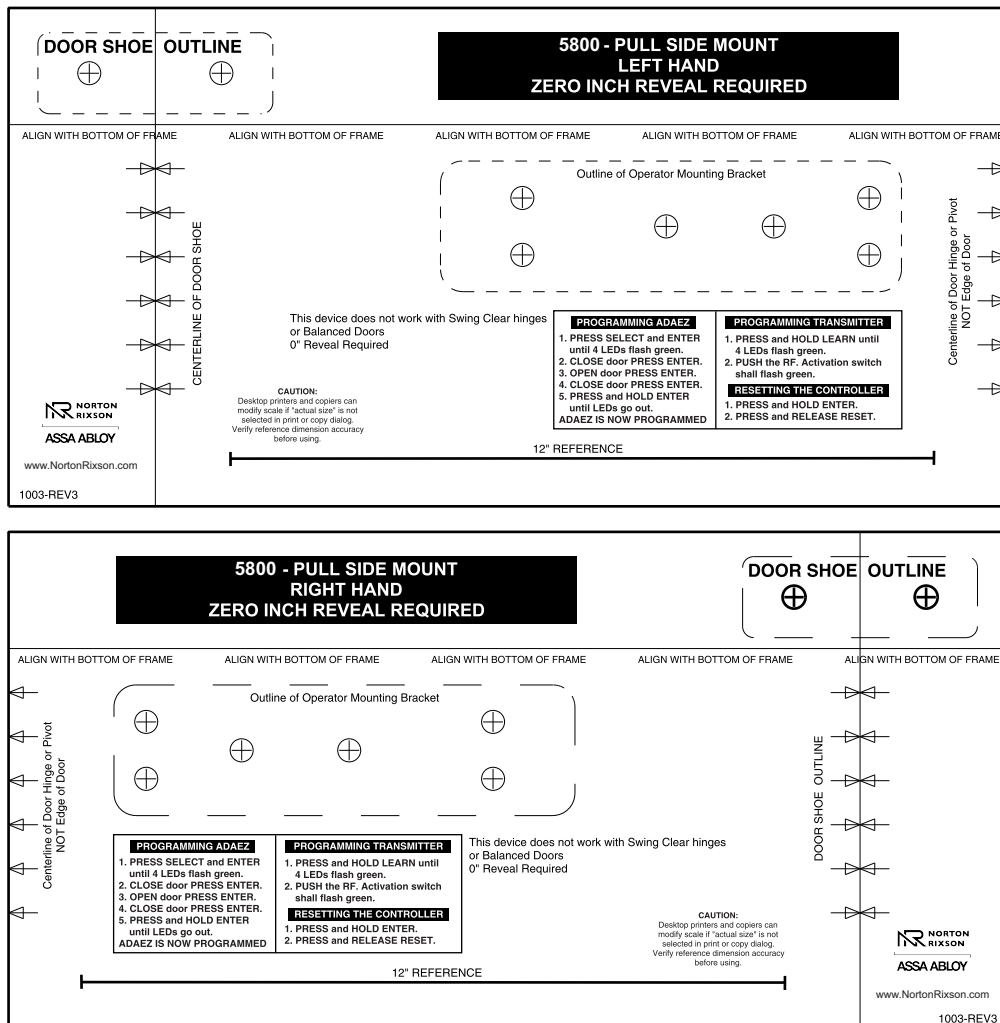

Figure 18
1. SELECT the right hand or left hand side of the operator mounting template as applicable. Refer to Figure 18.
2. If the door frame is wood, refer to Figure 18 and PERFORM the following: